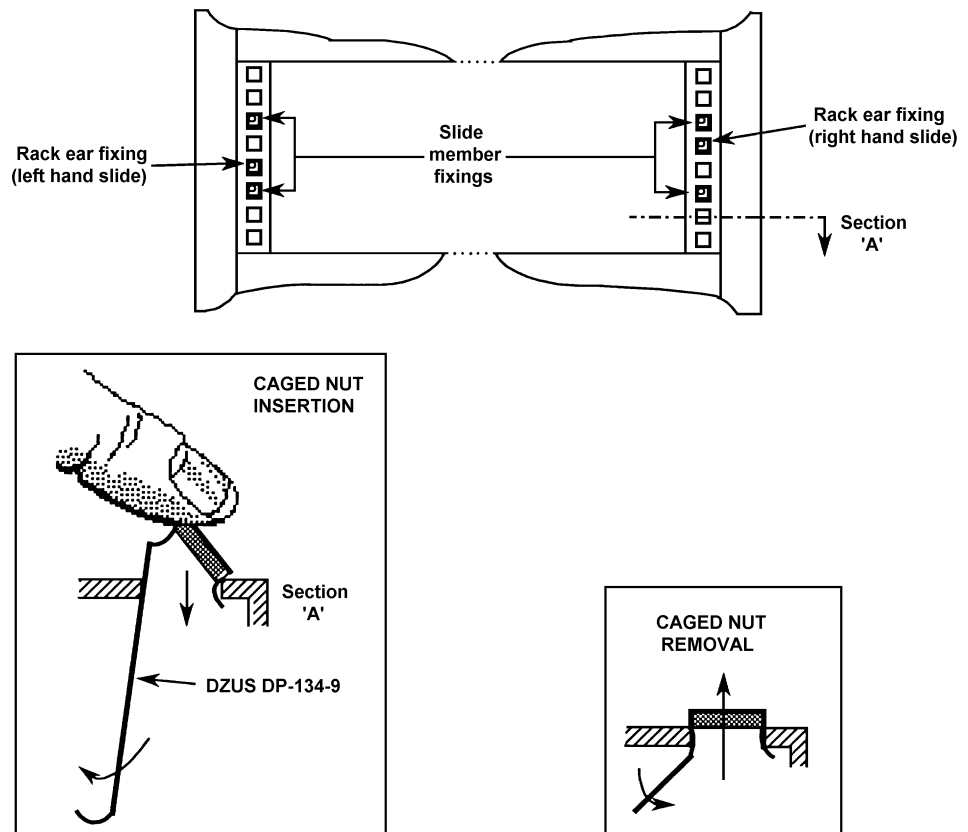

Figure 2.8 - Caged nut insertion in Imrak Series 80 (and similar) cabinets.
4. Fit the M6 caged nuts for outer slide member and rack ear fixing into the rack, in the positions shown in Figure 2.8. The way to insert and remove caged nuts is shown in the figure detail.